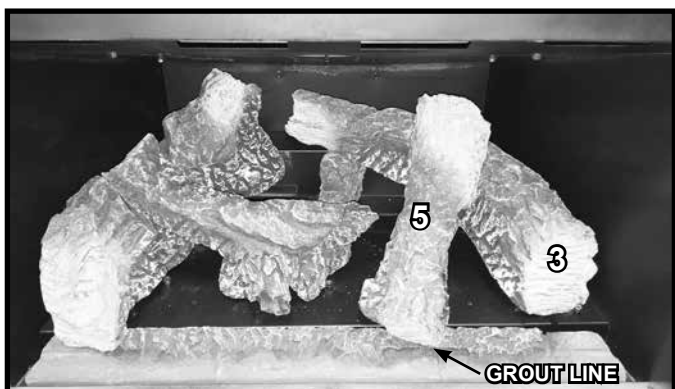

Figure 7. Log #5 Installed
**LOG #5:** Place the non-bark end of log 5 on the flat spot of log 3. The front right corner on the other end of log 5 will sit at the intersection of the grout lines on the base refractory. See Figure 7.